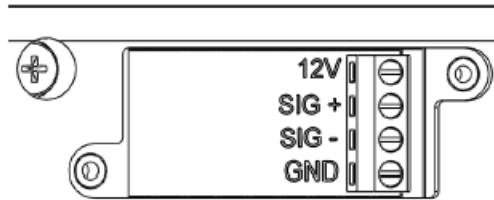

Figure 3-12: Wiring Details
- 5 Refer to Figure 3-12 while performing the wiring. Also, refer to the sensor description provided in Table 3-1.